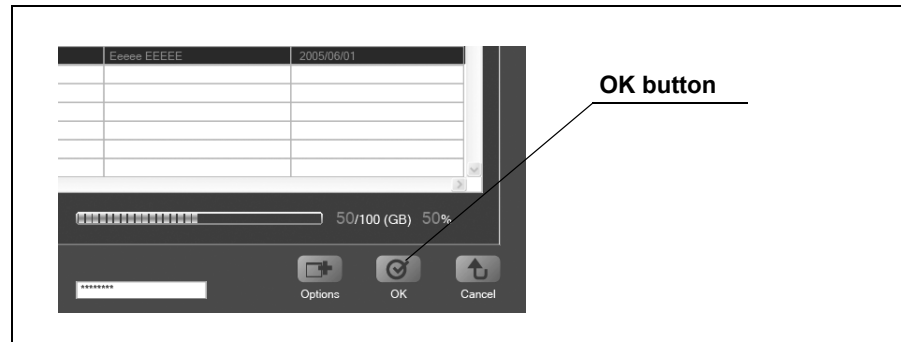

Figure 6.102
9. Click the [OK] button on the DVD writing screen (see Figure 6.102). The selected examination data will be written. The progress screen is displayed while the examination data is being written.